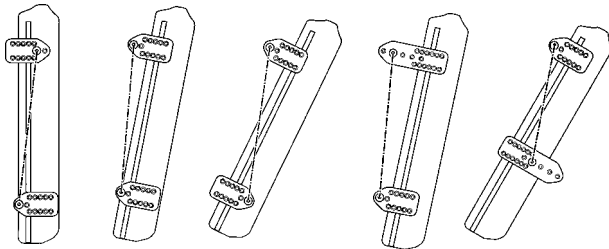

FIGURE 2 - INSTALLING ADJUSTABLE MOUNTING BRACKETS ONTO KWIK FIT BACK
INSTALLING ADJUSTABLE MOUNTING BRACKETS ONTO KWIK FIT BACK (FIGURE 2)
3. Loosely install the four (4) adjustable mounting bracket guides to the four (4) adjustable mounting brackets at the position determined in **STEP 2** with the socket cap screws provided. Refer to **FIGURE 2** for proper orientation.
4. Install the four (4) adjustable mounting bracket guides into the slot on either side of the back and slide to the position determined in **STEP 2**. Tighten socket cap screws securely.
5. Install Kwik Fit back onto wheelchair as shown in **FIGURE 2**. Repeat **STEPS 3-4** until ALL of the following occur: